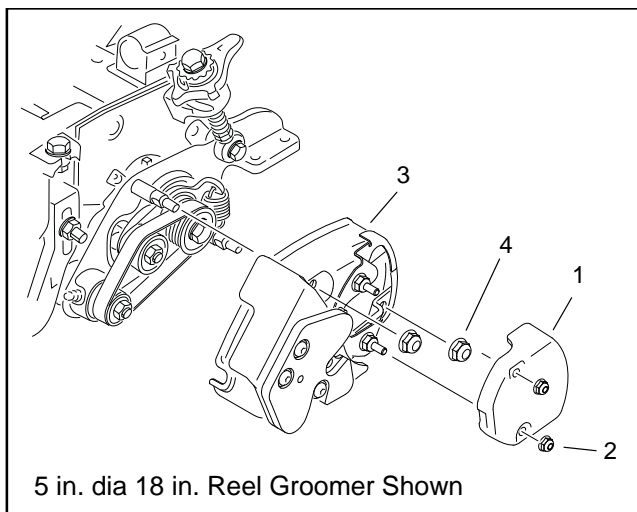

Figure 1
2. Remove the access cover from the groomer cover assembly (Fig. 1).
3. Remove two (2) flange nuts that secure groomer cover, then remove cover (Fig. 1).